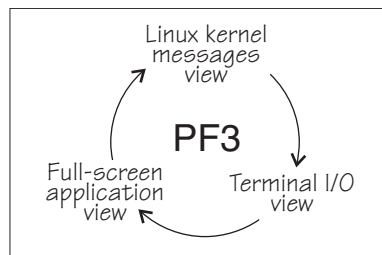

Figure 16. Switching views of the 3270 terminal device driver
Use function key 3 (PF3) to switch between the views (see Figure 16).